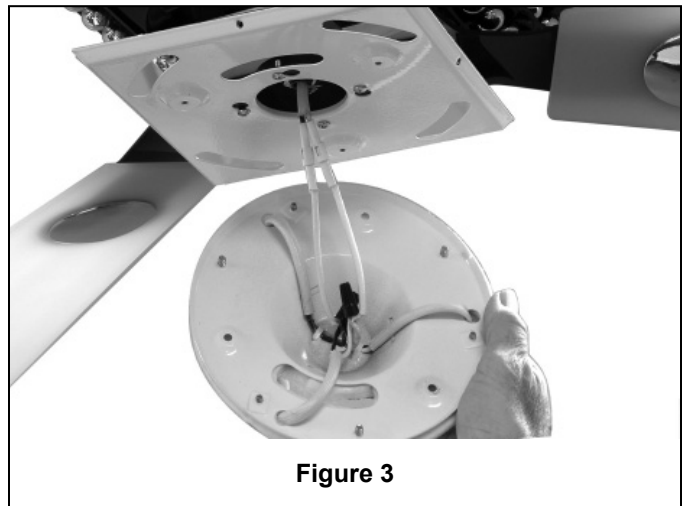

Figure 3
7. While pulling up on the hanger ball, securely tighten the two 3/16-24 x 13mm setscrews in the downrod support. (Figure 3)
4. Carefully lift the fan and seat the downrod/hanger ball assembly on the hanger bracket that was just attached to the ceiling joist. Be sure the groove in the ball is lined up with tab on the hanger bracket. (Figure 3)
5. Attach the safety cable to ceiling support cable. Slide cable clamp onto safety cable (from fan). Place the end of cable through the loop of ceiling support cable. Pull as much cable through loop as possible. Feed end of cable into clamp hole and firmly tighten screw (Figure 3). Cut off excess safety cable.
- Connect wires as indicated: (Figure 3)
1. Operating & Using Remote Transmitter (Figure 3): Install 9 volt battery (If not using for long periods of time, remove battery to prevent damage to transmitter). Store the transmitter away from excess heat or humidity.
3. Securely attach plugs from motor to sockets on Downlight Socket Plate Assembly (Figure 3)